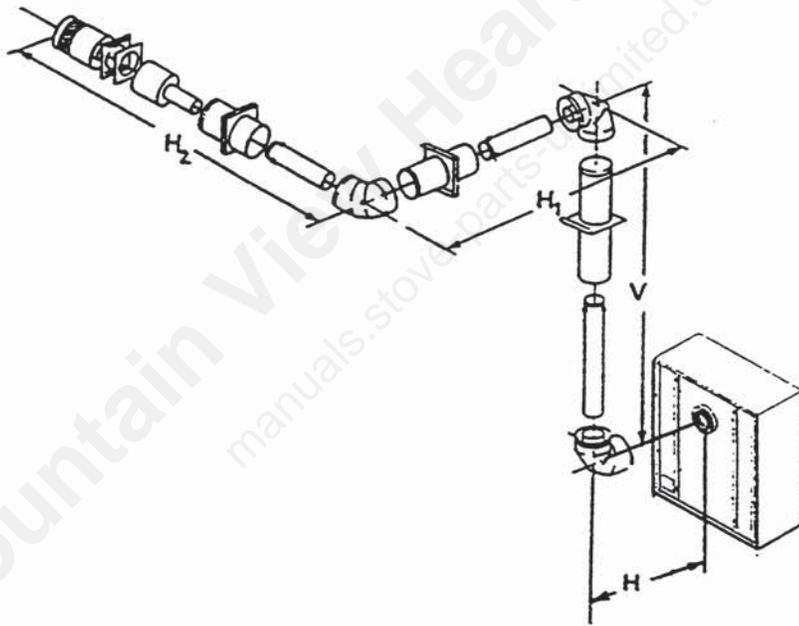

FIGURE 8
Figures 8 and 9 and Tables 5 and 6 show examples of possible installations using three (3) 90 degree elbows. Dimensions V are listed as **MINIMUM** vertical dimensions, dimensions H and H + H₁ + H₂ are listed as **MAXIMUM** horizontal dimensions. Three elbows can result in either a horizontal or a vertical termination.